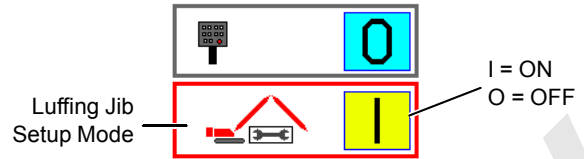

FIGURE 3-32
3. The screen shown in Figure 3-32 will appear on display.